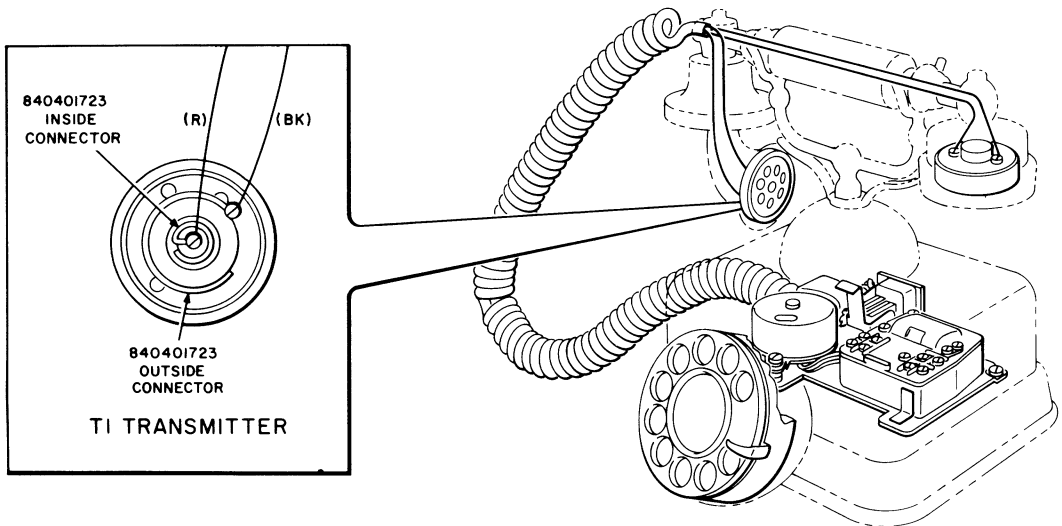
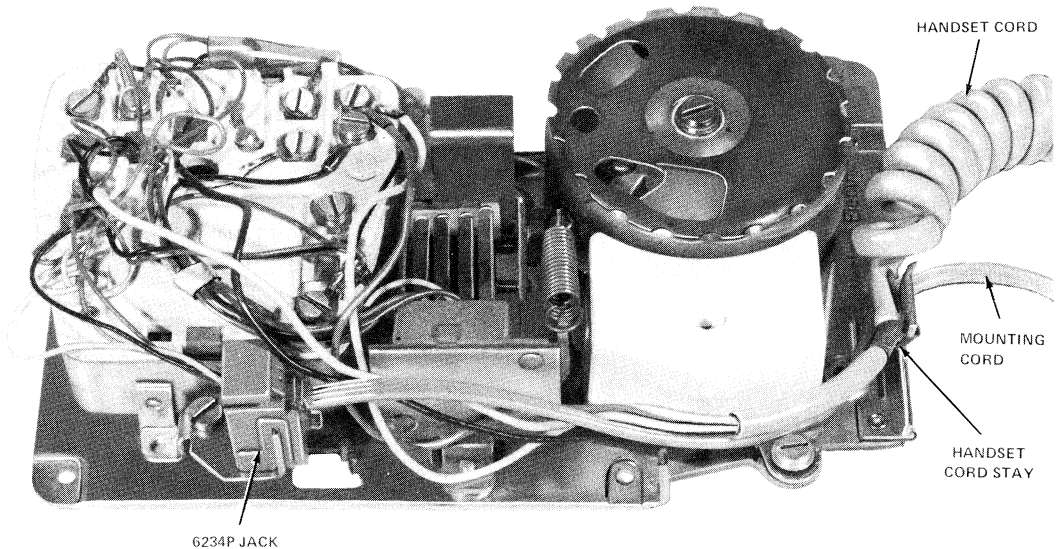

Fig. 3—Typical Installation, Desk Set Antique—Decorator Housing
Fig. 5—Installation of Mounting Cord Using D-180778 Kit of Parts
- (1) Remove upper housing from base of customer-owned housing.
- (2) Position 581A telephone set base on base of customer's housing, ensuring that the ringer volume control is accessible through opening of base.
- (3) Fasten 581A base using four screws, furnished with set or screws furnished with the housing. A typical installation in a customer-owned desk set type housing is shown in Fig. 3.
(1) Mount 623P4 jack and jack bracket to the network as shown in Fig. 5.
(2) Connect the four 623P4 jack leads and rearrange network leads as shown in Table D.
(3) Thread one end of the D4BU mounting cord into the set and plug into 623P4 jack as shown in Fig. 5. For connections refer to Table E or F.
(1) Lay the set end of H4CJ handset cord on top of mounting cord and secure cord stay to bracket on base as shown in Fig. 5.
(2) Connect leads to appropriate network terminals (Table A or B).
(3) Remove transmitter and receiver caps from customer-owned handset. Insert handset cord leads through handset openings, feeding two white leads into receiver cavity and red and black leads into transmitter cavity.
(4) Connect white leads to U3 receiver unit, place unit in cavity and replace receiver cap.
(5) Snap inside and outside connectors on T1 transmitter unit and terminate red and black handset leads (Fig. 3).
- (1) A standard D3BN mounting cord is required for connections between the line wire, connecting block and the 581A base network terminals unless inside wire can be terminated directly in wall mounted subset. A D6AA mounting cord must be used to provide the connections between the 581A base and customer's desk stand set, except for party line service where a D10R mounting cord is used when tip party identification is required.
(2) Install set end of D3BN and D6AA mounting cords to 581A base, secure cord stay and route cord as shown in Fig. 5. D6AA cord can lay on top of D3BN cord.
(5) Snap inside and outside connectors onto T1 transmitter unit and terminate red and black leads (Fig. 3).
(6) Refer to Read, 3.09 for transmitter and receiver unit insulation.